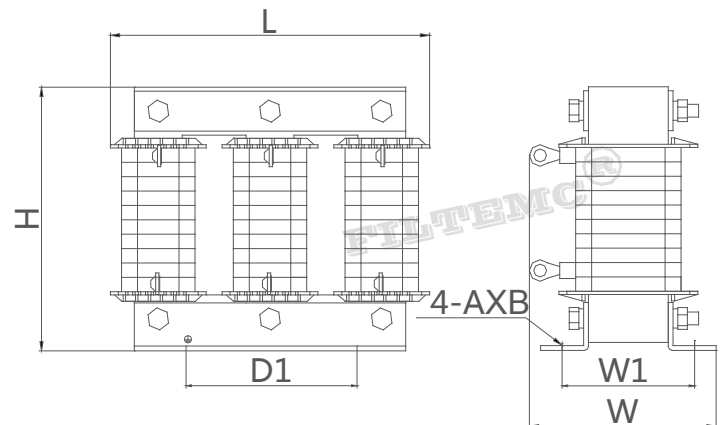
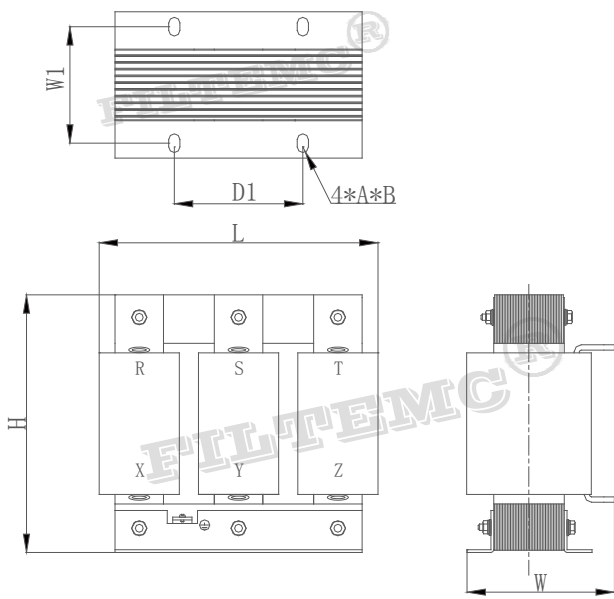

Fig.2
Fig.3
- Keep the tools fastening the stud be vertical to the metal case of filter when installing terminal block filters (shown as Figure2), must not tilt(shown as Figure3), otherwise the terminal blocks may be damaged.
(Figure2)
(Figure3)